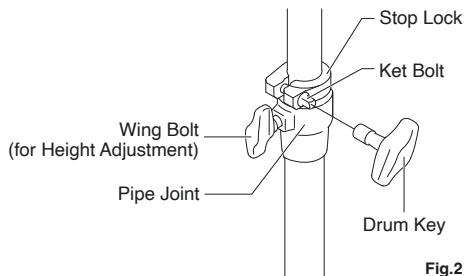

Fig.2
To use, once the desired stand height is set, use the included Drum Key and loosen the Key Bolt of the Stop Lock and slide it down to the top of the Pipe Joint, then tighten the Key Bolt to secure the setting (Fig.2).
- 6.Check to ensure everything is tight before mounting the Bass Drum (Fig.2).